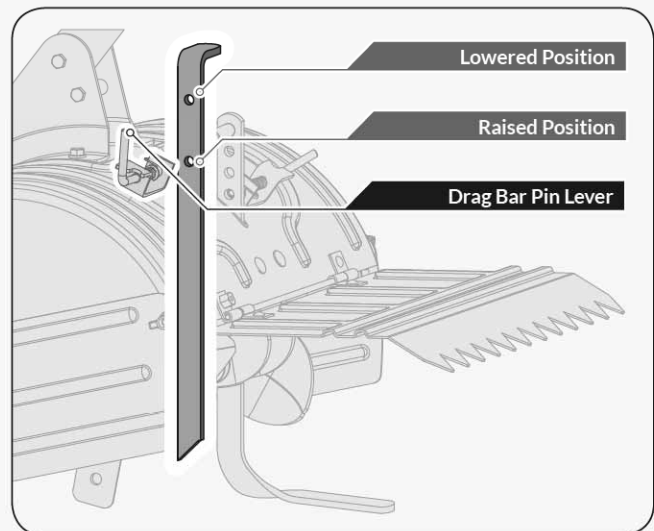

Figure 8
The drag stake (see **Figure 8**) should be raised when tilling in the counter rotating (R) till position. The drag stake should be lowered when tilling in the forward rotating (F) till position.
- Move both the depth stake pin lever and the drag stake pin lever to the unlock position (See **Figure 5a, Illustration 2 & Figure 8**). Hold the depth stake limiter to pull the depth stake
up for increasing tilling depth. Place depth stake pin in the hole of the depth stake to lock in position at desired depth. Lower drag stake to the "Lowered position" (See **Figure 8**) and lock it in position.